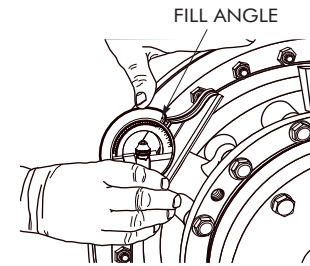

Figure 6
B. Use either an angle finder or a bevel protractor with spirit level set for the required fill angle, and place it on flat boss of filler hole as shown in Figure 6.